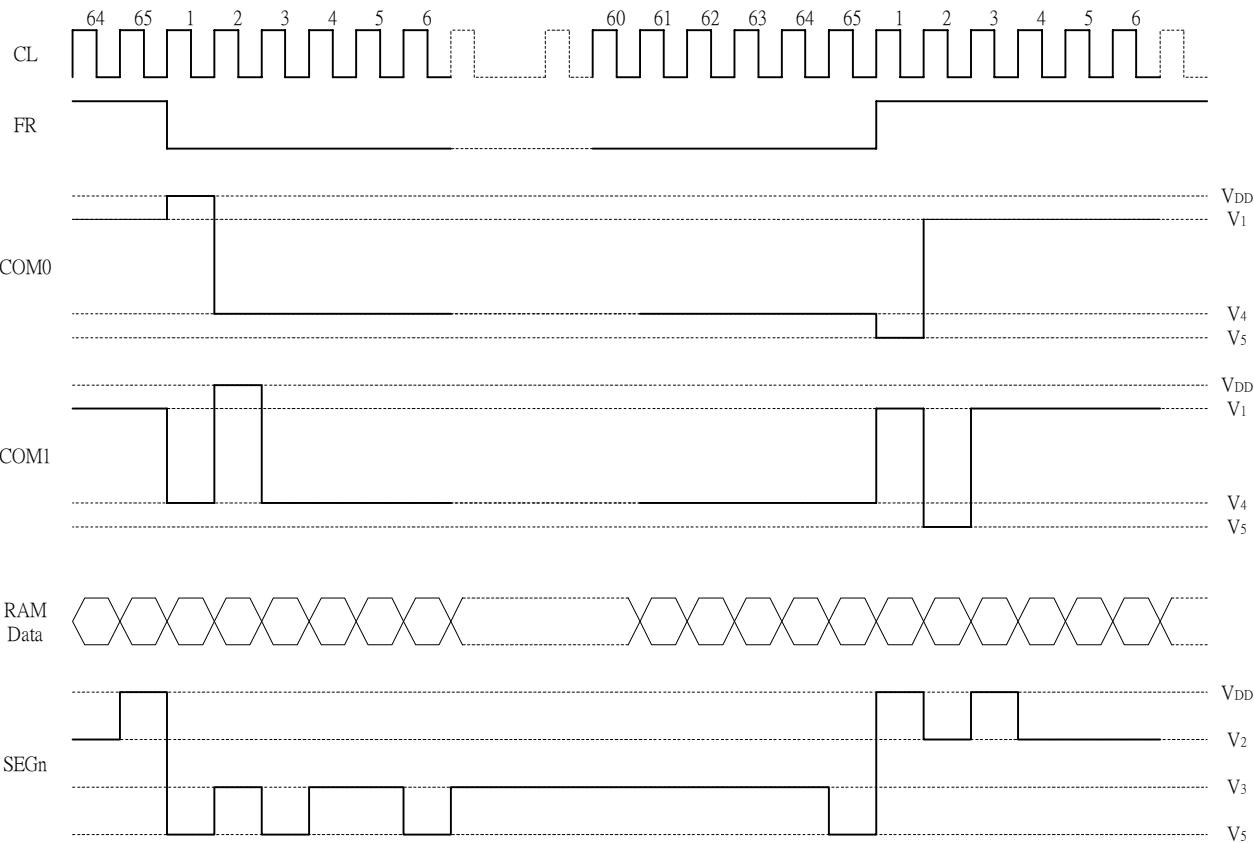

Figure 5
RAM is accessed asynchronously during liquid crystal display, there is absolutely no adverse effect (such as flickering) on the display. Moreover, the display timing generator circuit generates the common timing and the liquid crystal alternating current signal (FR) from the display clock. It generates a drive waveform using a 2 frame alternating current drive method, as is shown in Figure 5, for the liquid crystal drive circuit.